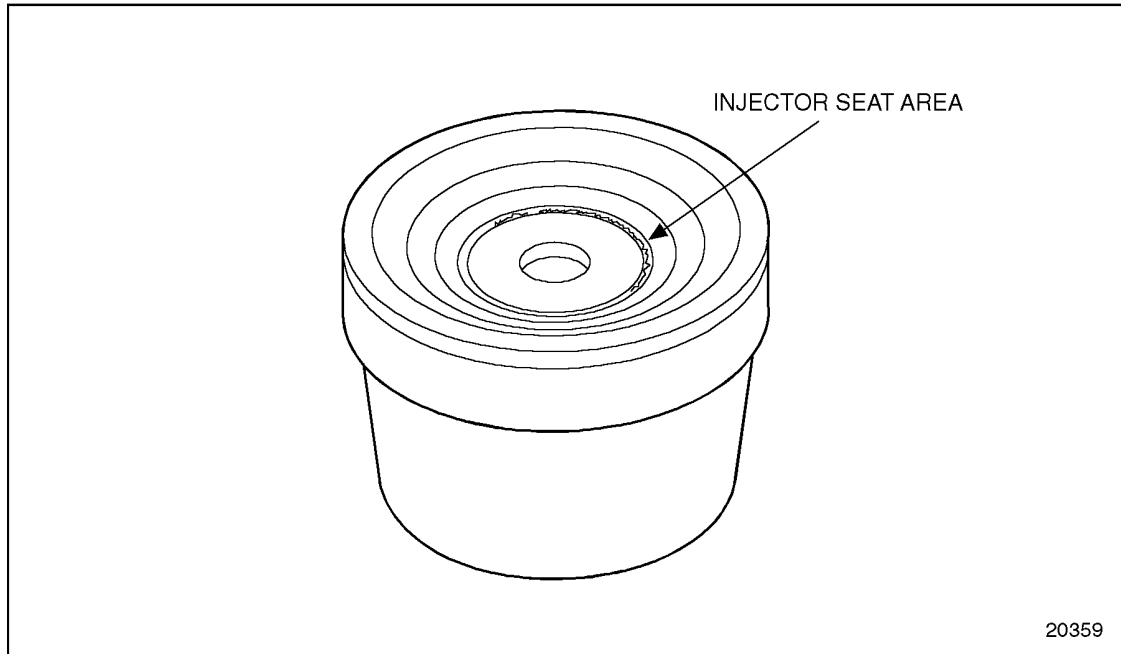

Figure 2-24 **Injector Tube Seat Irregularities**
10. Inspect the tube seating surface to ensure that there are no irregularities or chatter marks in the seating surface. If irregularities or chatter marks are found, remove and replace the injector tube. See Figure 2-24.